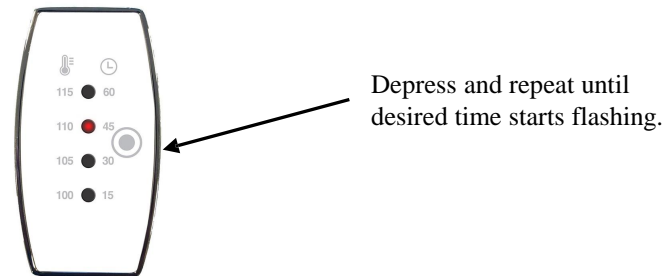

Figure 3
2. Changing Session Time. While the green LED is still flashing (within 4 seconds), momentarily press the “Control Button”. Repeat until the green LED associated with your desired time starts flashing. Once the desired time is flashing, wait 4 seconds and that time will be accepted by the control. (Figure 3)